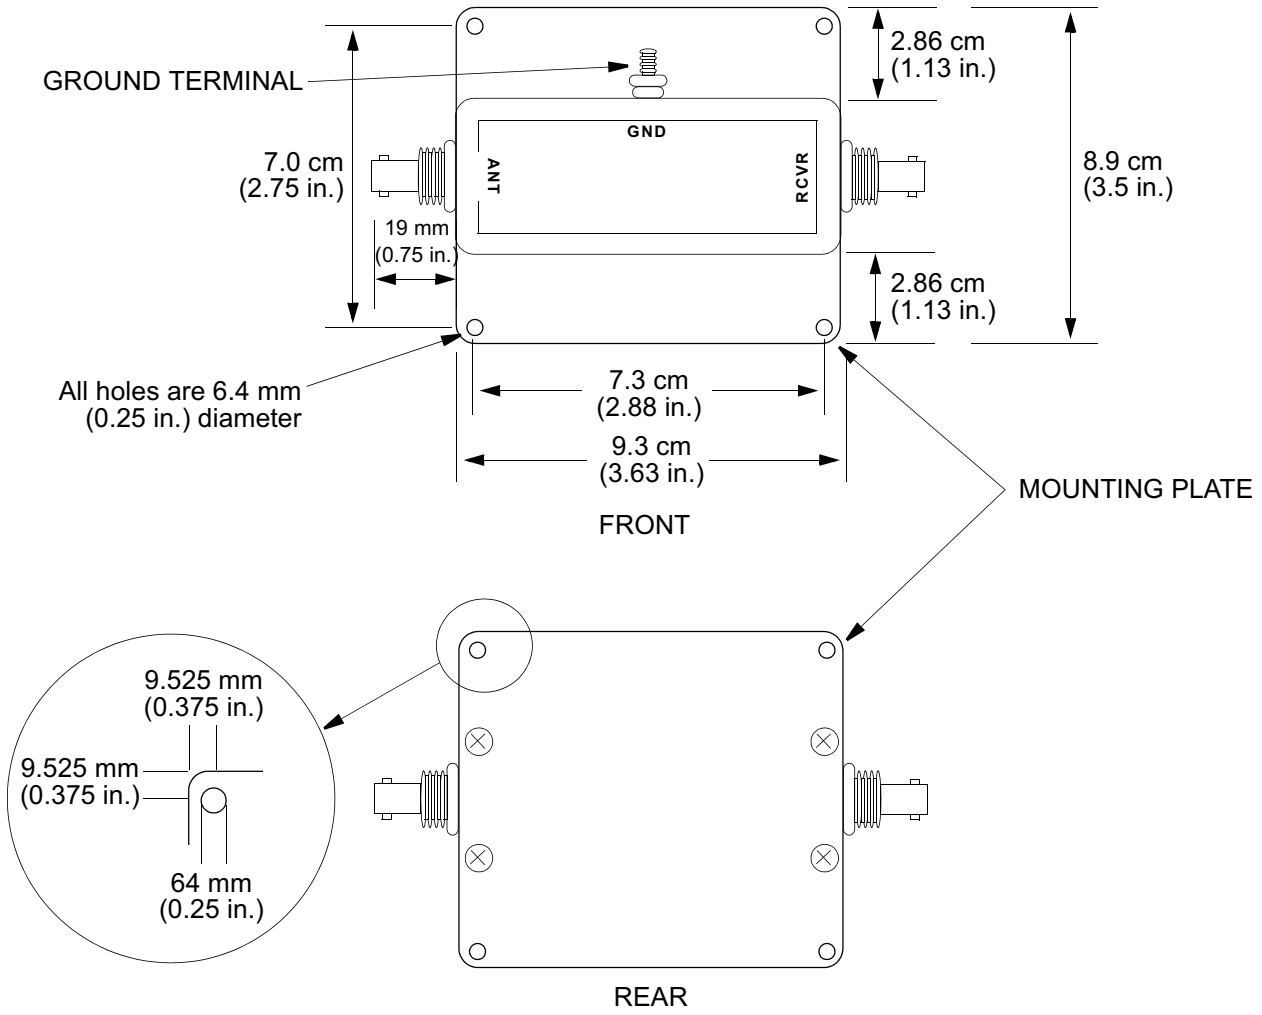
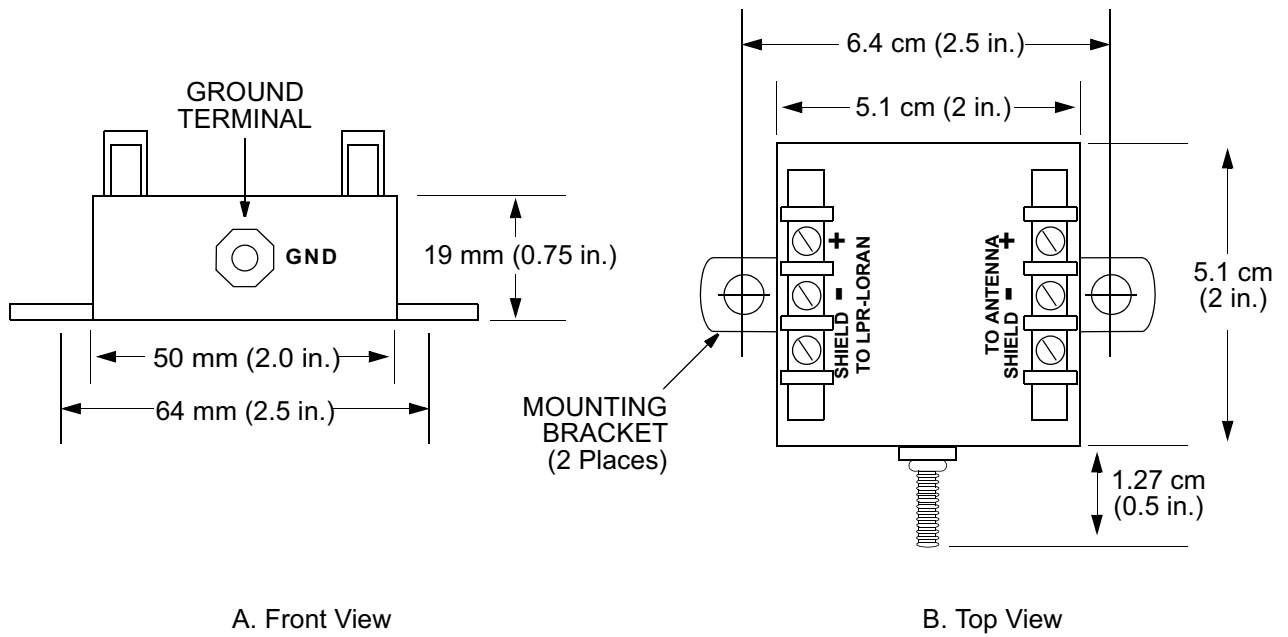

Figure 22. LORAN Type 1 Lightning Protector
Figure 23. LORAN Type 2 Lightning Protector
3.15 Symmetricom offers two types of LORAN lightning protectors: “Type 1” and “Type 2.” Type 1 lightning protectors have BNC connectors (Figure 22). Type 2 lightning protectors have screw-type connectors (Figure 23). When information applies to both types, reference will be made as “lightning protector(s).” Installation procedures for both lightning protector types are included in this section.
- 2) The two twinax cable wires are to be connected to the + and – connectors of the lightning protector (Figure 23); either wire can be connected to either connector, but *this wiring*
- 2) The two twinax cable wires are to be connected to the + and – connectors of the lightning protector (Figure 23); either wire can be connected to either connector, but *this wiring must be continued for all lightning protector connections.*